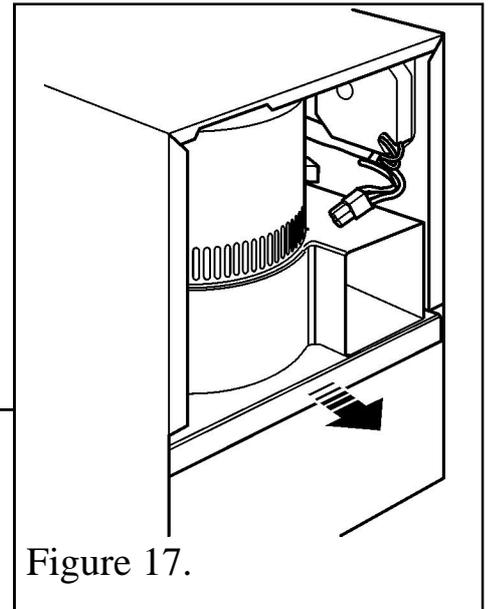

Figure 17.
1. Remove the 2 cover retaining screws and withdraw the fan unit (See figure 17).